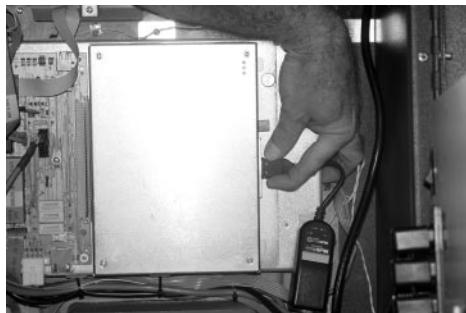

Figure 3-11. Disconnect the telephone line from the modem.
1. Unlock and open the cabinet sleeve door. Turn off the AC input power by pushing the AC ON/OFF switch to the OFF(0) position
4. Refer to Figure 3-11. Disconnect the telephone line adapter connector from the modem assembly. Remove the adapter from the velcro strip securing it